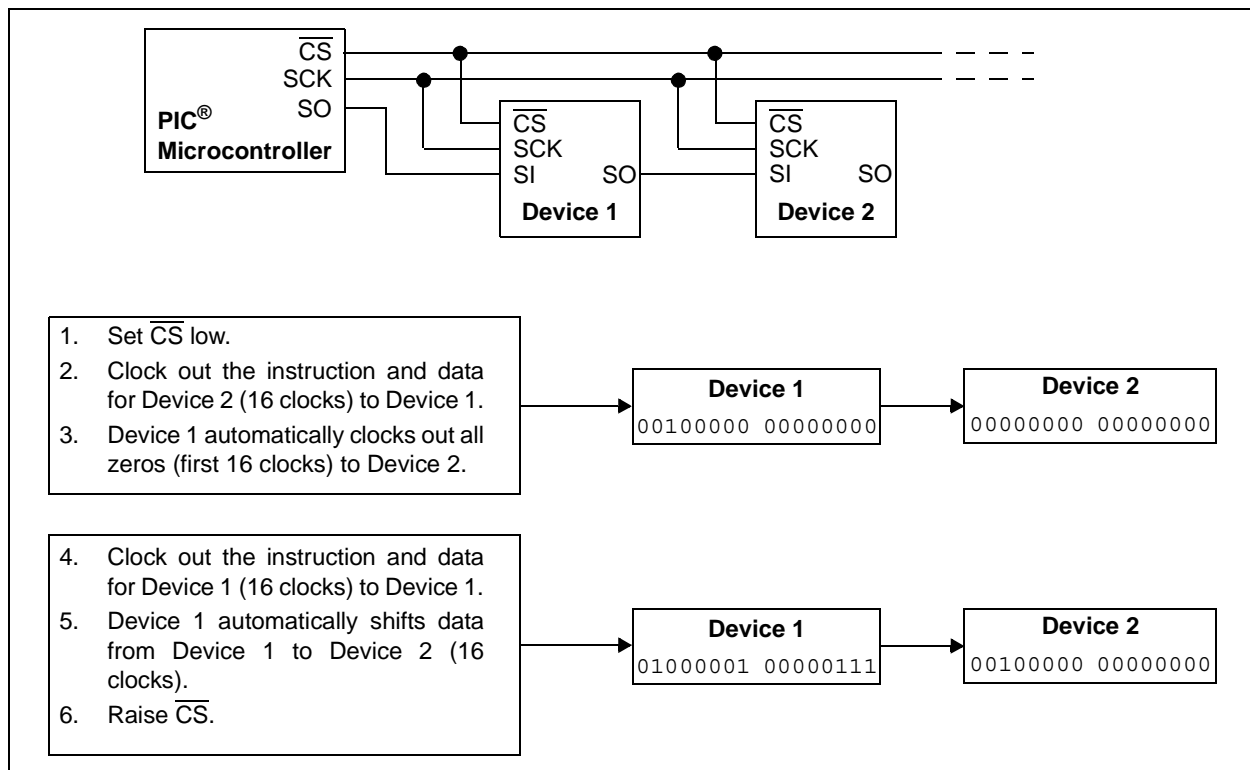
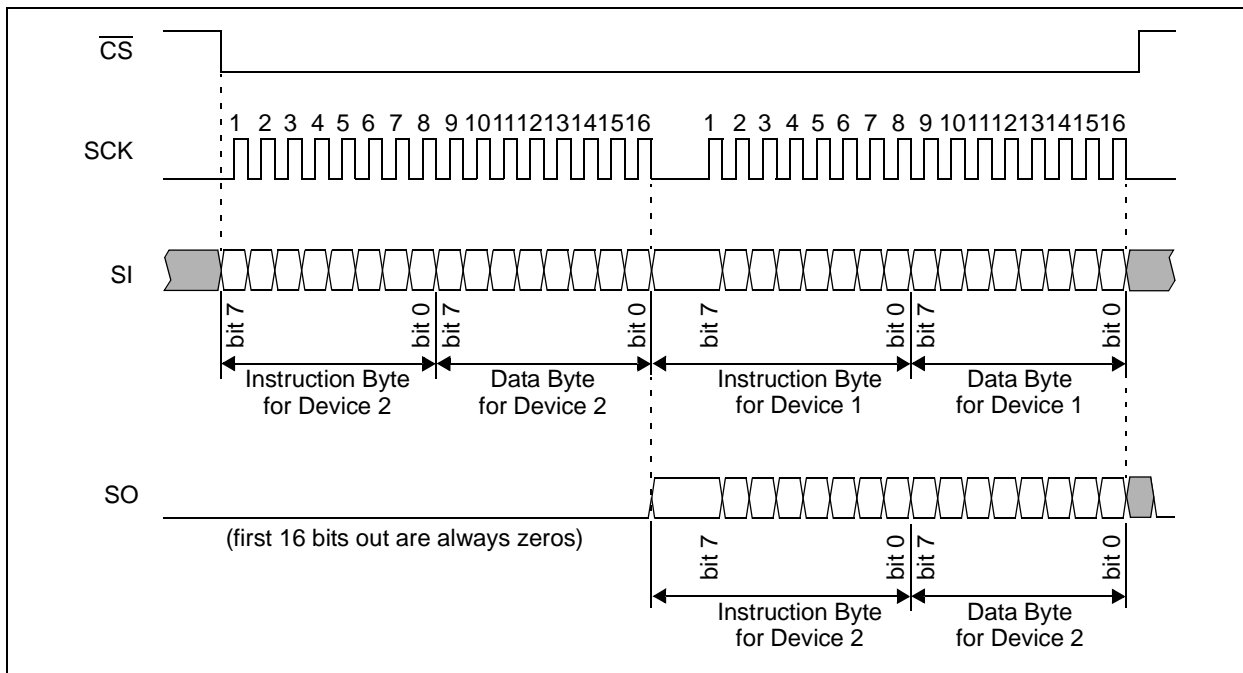
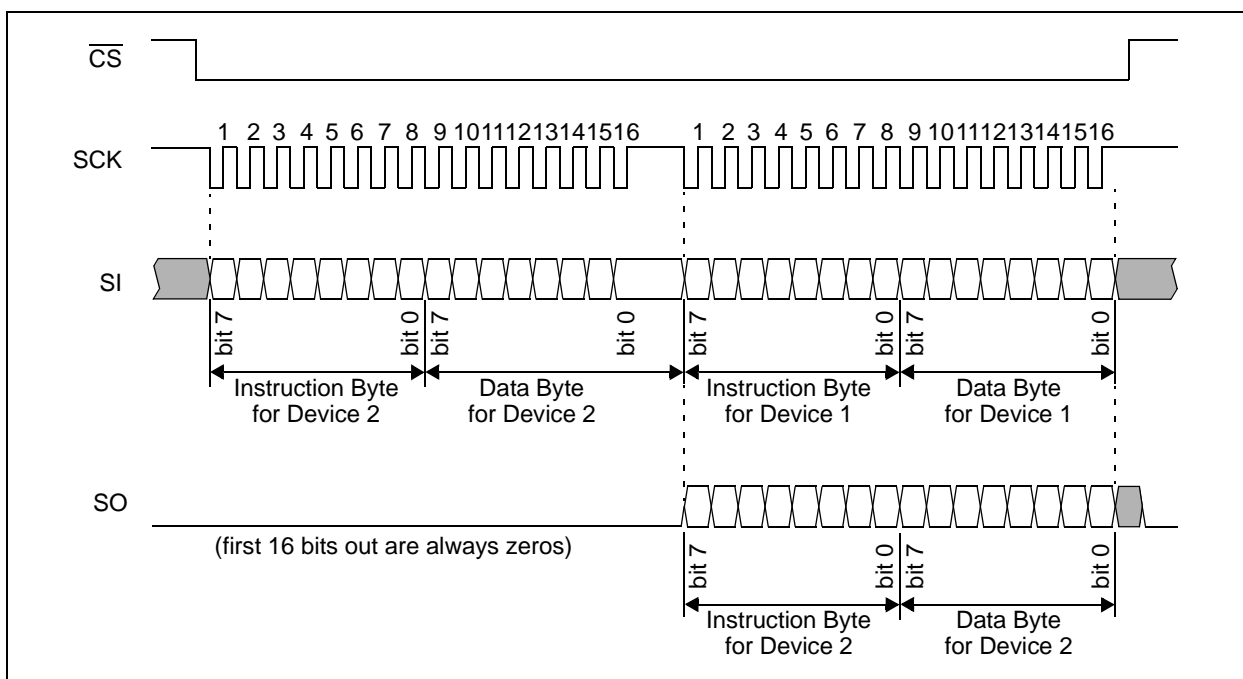

FIGURE 5-3: Daisy Chain Configuration.
FIGURE 5-4: Serial bus sequence for daisy-chain configuration; SPI 0,0 mode.
FIGURE 5-5: Serial bus sequence for daisy-chain configuration; SPI 1,1 mode.
Multiple devices can be connected in a daisy chain configuration by connecting the SO pin from one device to the SI pin on the next device and using common SCK and \overline{CS} lines (Figure 5-3). This approach reduces PCB layout complexity.
The example in Figure 5-3 shows a daisy chain configuration with two devices, although any number of devices can be configured this way. The MCP6S21 and MCP6S22 can only be used at the far end of the daisy chain because they do not have a serial data out (SO) pin. As shown in Figure 5-4 and Figure 5-5, both SI and SO data are sent in 16-bit (2 byte) words. These devices abort any command that is not a multiple of 16 bits.